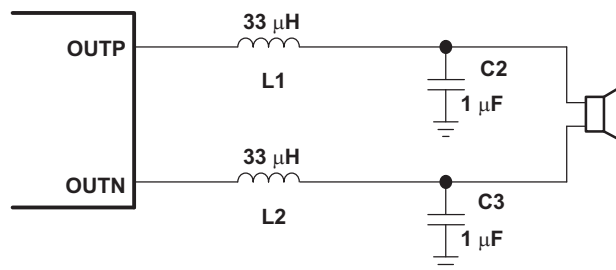
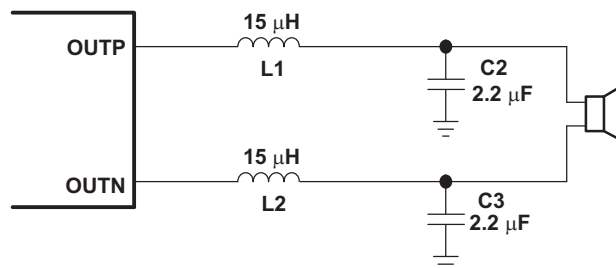

Figure 27. Typical LC Output Filter, Cutoff Frequency of 27 kHz, Speaker Impedance = 8 Ω
Figure 28. Typical LC Output Filter, Cutoff Frequency of 27 kHz, Speaker Impedance = 6 Ω
- **Output filter**—The ferrite EMI filter (Figure 29) should be placed as close to the output pins as possible for the best EMI performance. The LC filter (Figure 27 and Figure 28) should be placed close to the outputs. The capacitors used in both the ferrite and LC filters should be grounded to power ground.